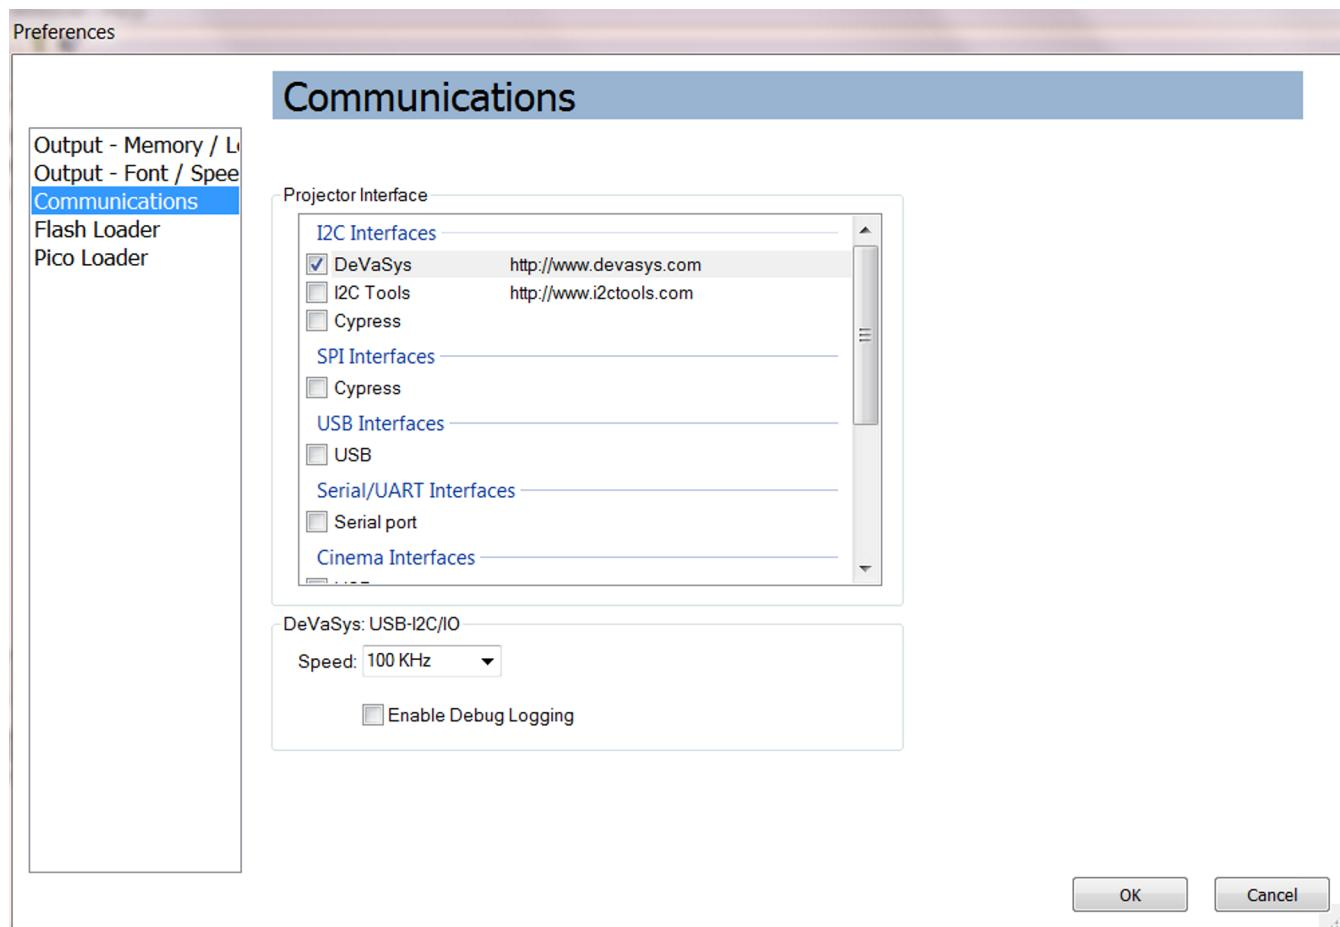

図 9. I2C Communication Options
1. In the menu bar of DLP Composer GUI, navigate to *Edit* → *Preferences* → *Communication* → *Projector Interface* → *I2C Interfaces* as 図 9 shows and select DeVaSys (or USB from the *USB Interfaces* sub menu).
2. At the end of the dialog box, select 100 kHz as the I2C speed (see 図 9).